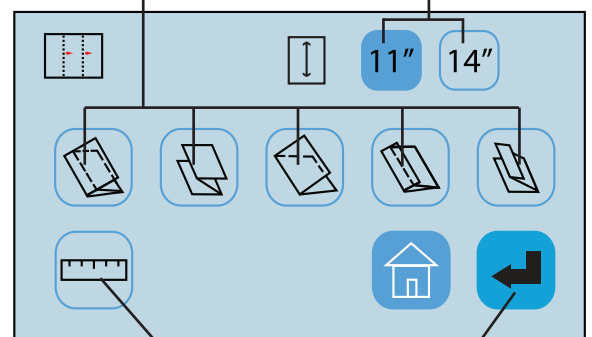

Fig. 5b
4. Select the standard fold type (Fig. 5b) needed and press the "Enter" icon  to set the fold stop positions. When the fold stops are set, the control panel will return to the home screen. The selected fold icon will be displayed.